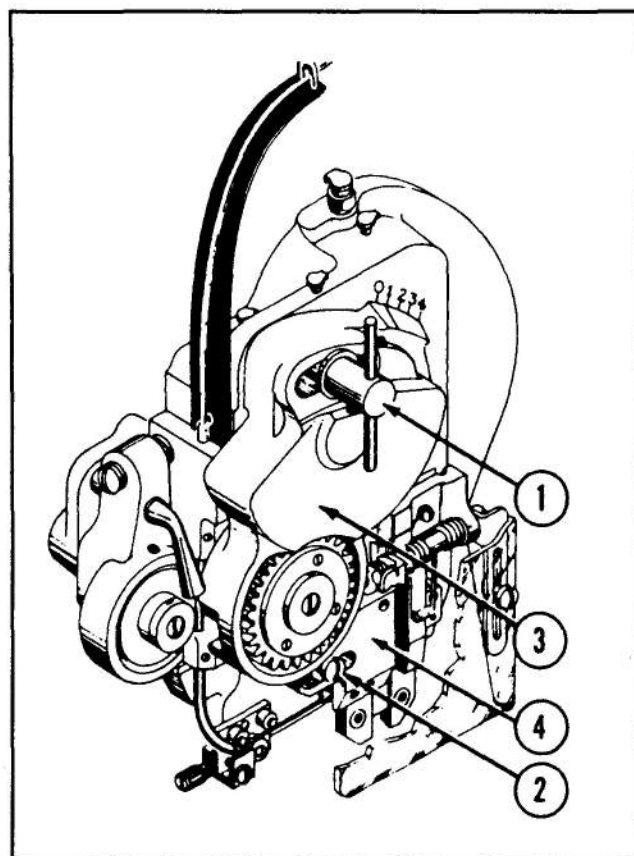

Figure 9 — Wire Draw Adjustments
2—If it is found necessary to relocate the wire feed guard lock screw, (1) Fig. 9, and cutter block holding screw (2), remove both screws, and then shift the
3—The standard wire draw heads are so designed that the cutter block, (4) fig. 9, automatically shifts to the left or right when the wire feed guard is shifted. Relocate the cutter block holding screw (2) in its alternate hole (D, or E, Fig. 7). and tighten screw securely. If head is of the Metal Stitcher type (Model BHM or BHMB), relocate the cutter block holding screw (2) with washer, in its alternate hole (D or E, Fig. 7), but do not tighten. If head being operated is either the long or extra long draw type (Model BHL, BHX or BHML), the cutter block must be shifted manually. Move cutter block, as required, and relocate holding screw and washer (hex head screw and washer used on long and extra long draw heads only); do not tighten screw at this point.
4—If it is not found necessary to relocate the wire feed guard lock screw, (1) Fig. 9, and cutter block holding screw (2), and head being operated is the standard wire draw type, loosen (do not remove) only the wire feed guard lock screw (1); if head is either the metal stitcher type or long or extra long draw type, loosen (do not remove) both screws.
5—To increase or decrease the wire draw on the standard wire draw heads, shift the wire feed guard casting, (3) Fig. 9, to the right or left. As mentioned in step (3) above, any shifting of the wire feed guard automatically adjusts the position of the cutter block so that both legs of the staple are increased or decreased an equal amount.
After the setting has been made, tighten the wire feed guard lock screw, (1) Fig. 9. If head is of the metal stitcher type (Model BHM or BHMB), also tighten the cutter block holding screw, (2) Fig. 9.
After setting the wire feed guard and cutter block, tighten the wire feed guard lock screw and cutter block holding screw, (1) and (2) Fig. 9.